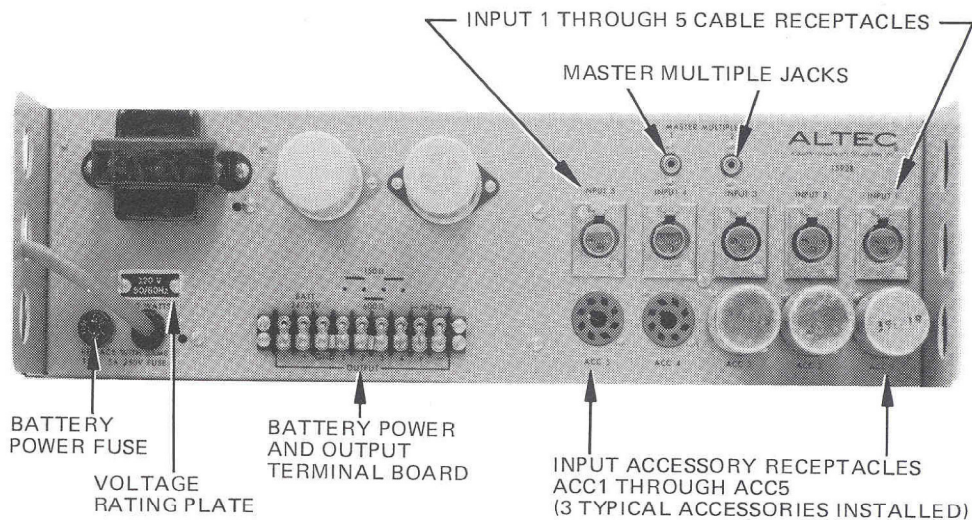
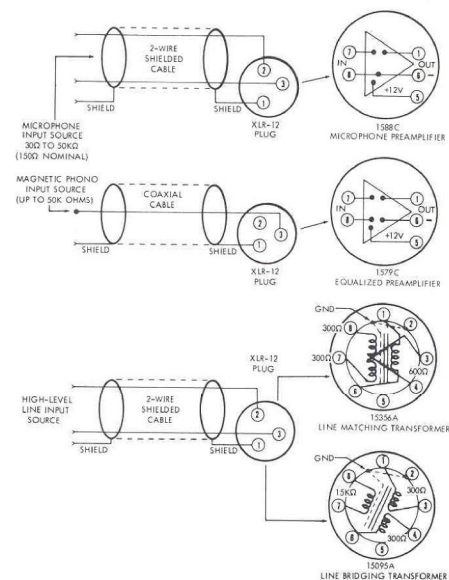
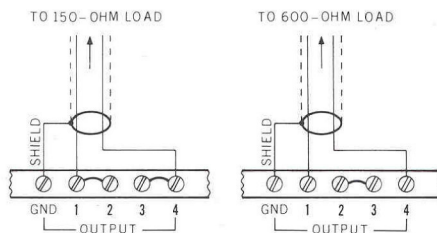

Figure 2. Rear View
Figure 4. Input Wiring for Various Applications
Figure 6. Output Wiring Connections
Equipment supplied for domestic use is provided with the power transformer primary strapped for 120 volts (terminals 1 to 2 and 3 to 4 on TB2). The power input nameplate, adjacent to the power cord on the chassis, is mounted to show the appropriate side specifying the connections (see Figure 2). Verify that line voltage is in accordance with the voltage rating before connecting primary power.
- Step 4. Remove voltage-rating plate from chassis, reverse and re-install to show 240V rating (see Figure 2).
If desired, the 1592B may be connected to an external 24/28V dc battery with minus (-) as ground. Terminals for the dc power connections are on the OUTPUT terminal board (see Figure 2). If ac power
Inputs to the mixer channels are connected on the chassis at connectors INPUT 1 through INPUT 5 (see Figure 2), with cables terminating in XLR-12 type plugs. Appropriate internal wiring is shown in Figure 4 for these plugs. Input for any channel may be microphone, magnetic phono, or high-level line sources.
Transformer-isolated output connections are provided at the OUTPUT terminal board on the chassis (see Figure 2) for a load impedance of 150 or 600 ohms. Figure 6 shows wiring connections. Jumpers are connected between terminals 1 and 2, 3 and 4 for 150 ohms and between terminals 2 and 3 for 600 ohms.
Two MASTER MULTIPLE jacks (see Figure 2), independent of all gain controls, enable combining additional amplifiers or mixers into one system. Two or more 1592B Mixer/Amplifiers may be combined as shown in Figure 7A. A single coaxial cable with pin tip phone plugs connects each amplifier. Either MASTER MULTIPLE jack may be used for interconnection.